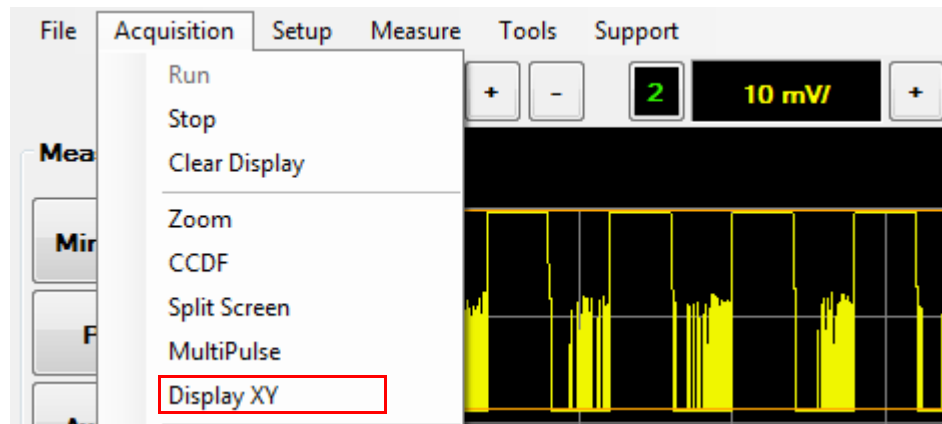

Figure 2-97 Display XY selection in the Acquisition menu
- 1 Select **Acquisition > Display XY** on the toolbar as shown in Figure 2-97.